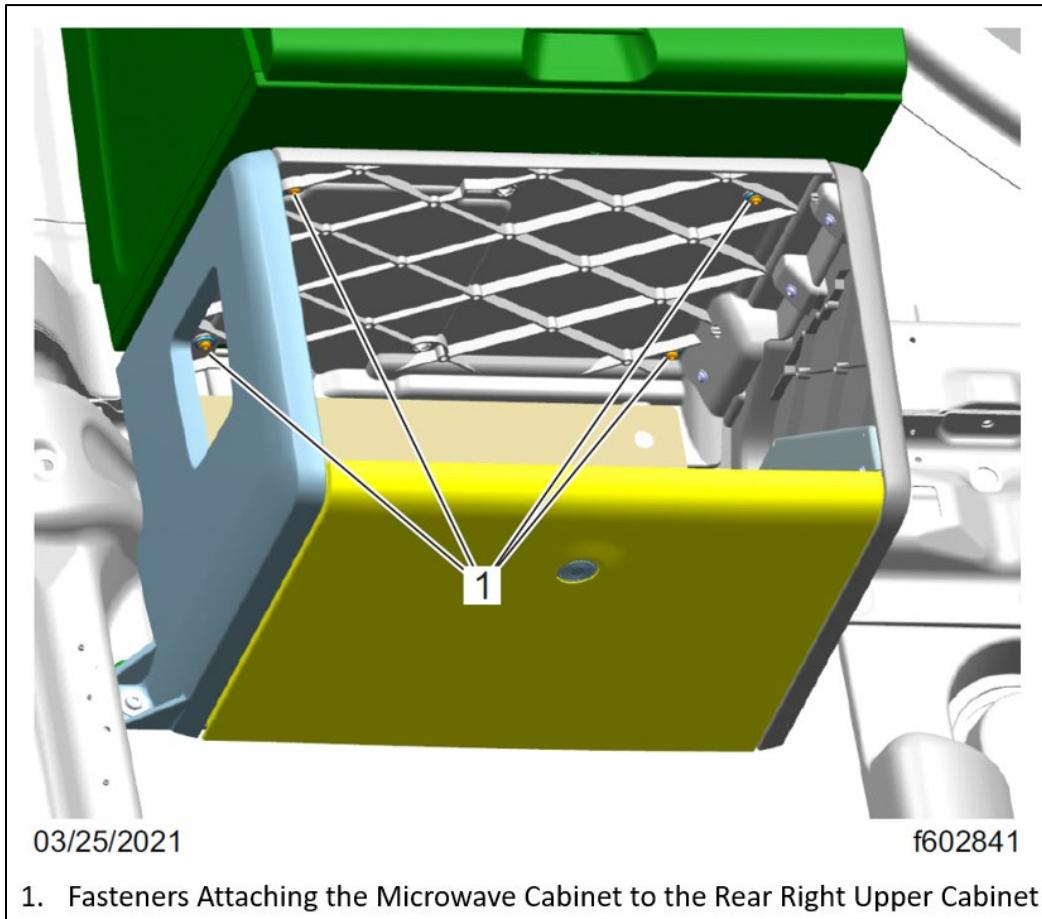

Fig. 38, Fasteners That Attach the Microwave Cabinet to the Rear Right Upper Cabinet
5.2. Remove the four fasteners that attach the microwave cabinet to the rear-right upper cabinet. See Fig. 38.